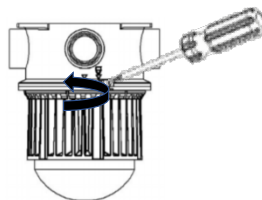

Figure 7 - Pry Q-Lux counter-clockwise to unlock
- 1. Remove Q-Lux from the Q-Hub by placing a screwdriver into the slot of the locking mechanism and prying the Q-Lux counter-clockwise until released from the lock. Figure 7.